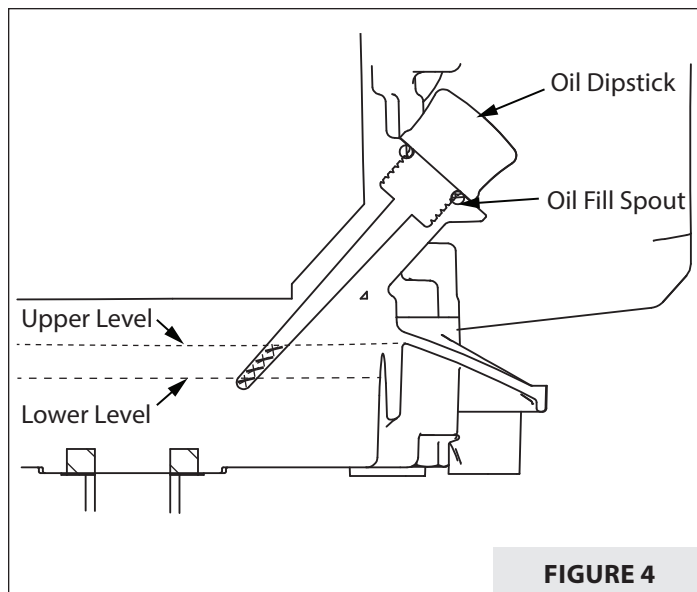

FIGURE 4
1. Remove the oil dipstick. Fill the crankcase to the **FULL** line on dipstick. **DO NOT OVERFILL. SEE FIGURE 4.**